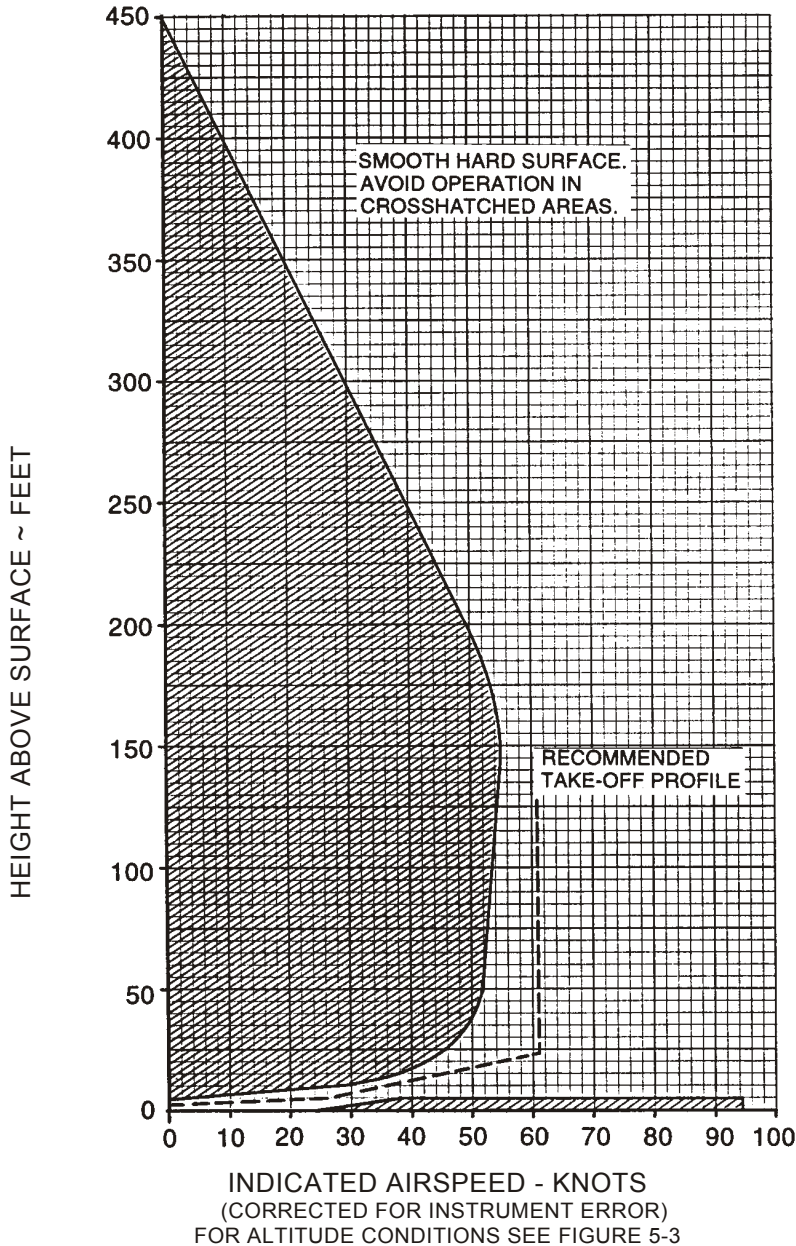

Figure 5-2. Height Velocity Diagram at Sea Level
- Conduct takeoff operation in accordance with the restrictions shown on Height Velocity Diagram (Figure 5-2). In the event of power failure during takeoff, lower the collective pitch (altitude permitting), in order to maintain rotor speed. The amount and duration of collective reduction depends upon the height above the ground at which the engine failure occurs. As the ground is approached, use back cyclic and collective as needed to decrease forward and vertical velocity. Establish a level attitude prior to ground contact.